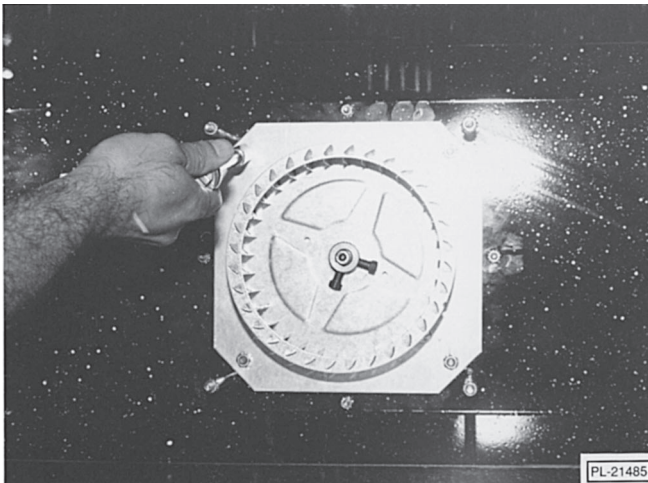

Fig. 55
8. Remove (4) $\frac{1}{4}$ -20 hex head nuts securing motor mount plate to rear oven cavity (Fig. 55).